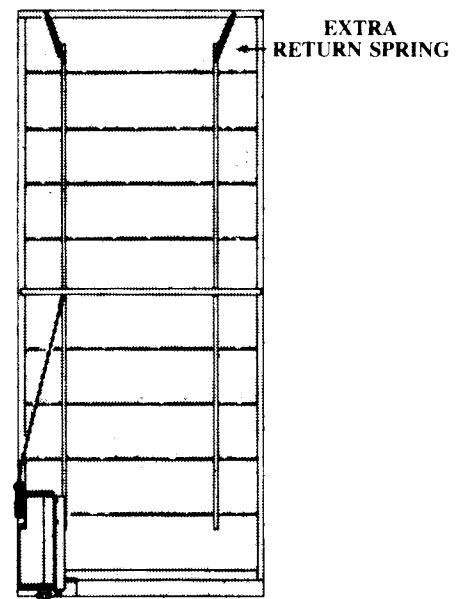

FIGURE 5
2. Assembly of Linkage for Motorized Operation. Motor and linkage are designed to operate a set of two louver sections. If a single louver section is used, motor location remains unchanged and linkage is modified by adding an additional spring (provided with the motor package) as shown in Figure 5. To install motor and assemble linkage to a set of two louver sections: